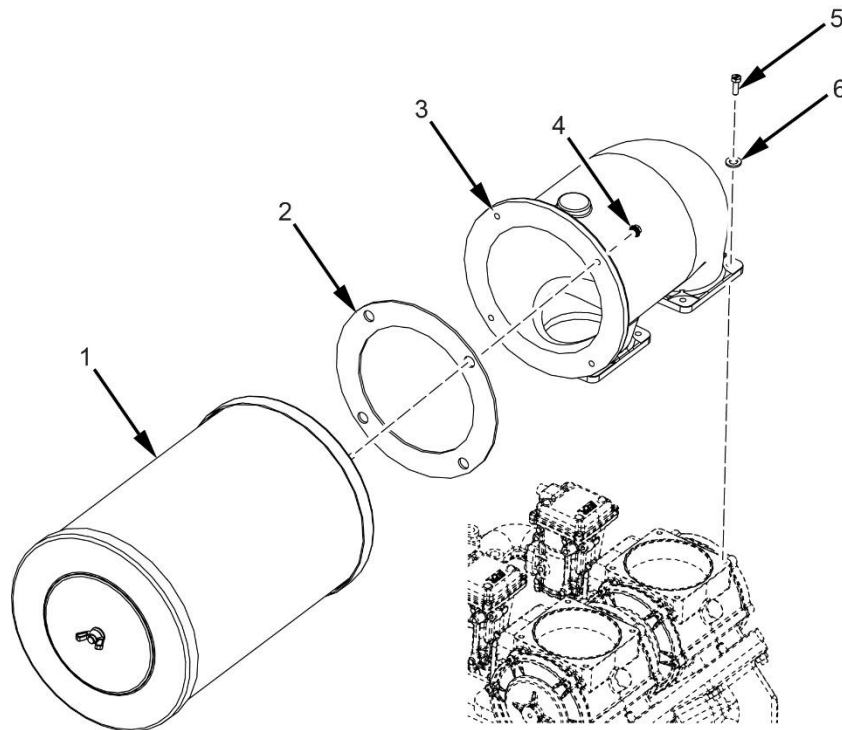
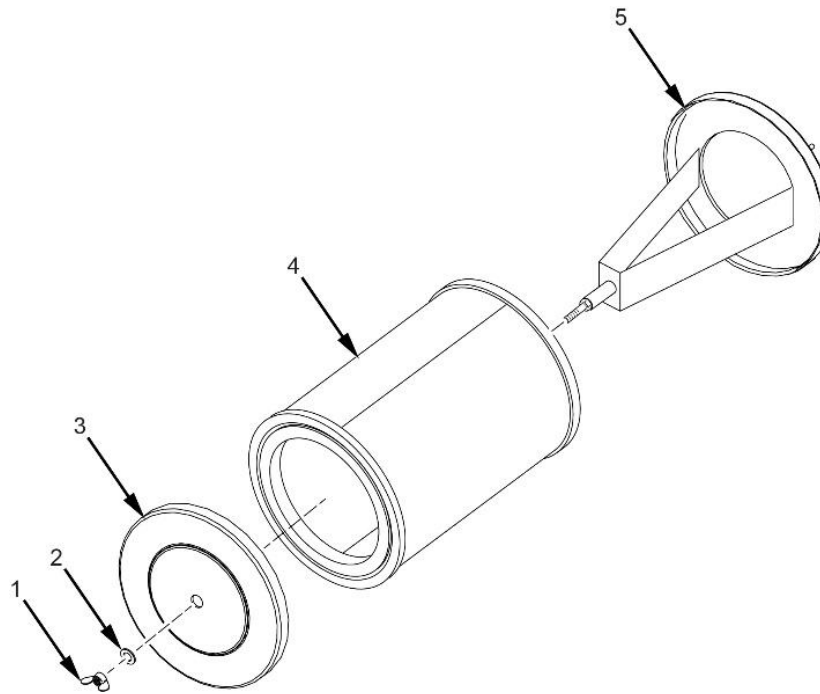

Figure 21. Air Filter Assembly
Figure 22. Air Filter Element
1. Loosen and remove the nuts (Figure 21, Item 4).
2. Remove the air filter (Figure 21, Item 1) and gasket (Figure 21, Item 2).
3. Remove the bolts (Figure 21, Item 5) and washers (Figure 21, Item 6).
4. Remove the housing (Figure 22, Item 3).
- The air filter element (Figure 22, Item 4) can be found directly inside the air filter assembly.
5. Remove wing nut (Figure 22, Item 3), washer (Figure 22, Item 2) and air filter assembly cover (Figure 22, Item 3).
6. Remove filter element (Figure 22, Item 4) from air filter assembly housing bracket (Figure 22, Item 5).
19. Install new air filter (Figure 22, Item 4) into the air filter assembly housing bracket (Figure 22, Item 5).
20. Place air filter assembly cover (Figure 22, Item 3) onto air filter (Figure 22, Item 4) and secure with washer (Figure 22, Item 2) and wing nut (Figure 22, Item 3). Hand-tighten wing nut securely.
21. Install (Figure 22, Item 3) and secure with washers (Figure 21, Item 6) and bolts (Figure 21, Item 5).
22. Place the air filter assembly (Figure 21, Item 1) and gasket (Figure 21, Item 2) on housing (Figure 21, Item 3).
23. Secure the air filter assembly (Figure 21, Item 1) to housing (Figure 21, Item 3) with nuts (Figure 21, Item 4).